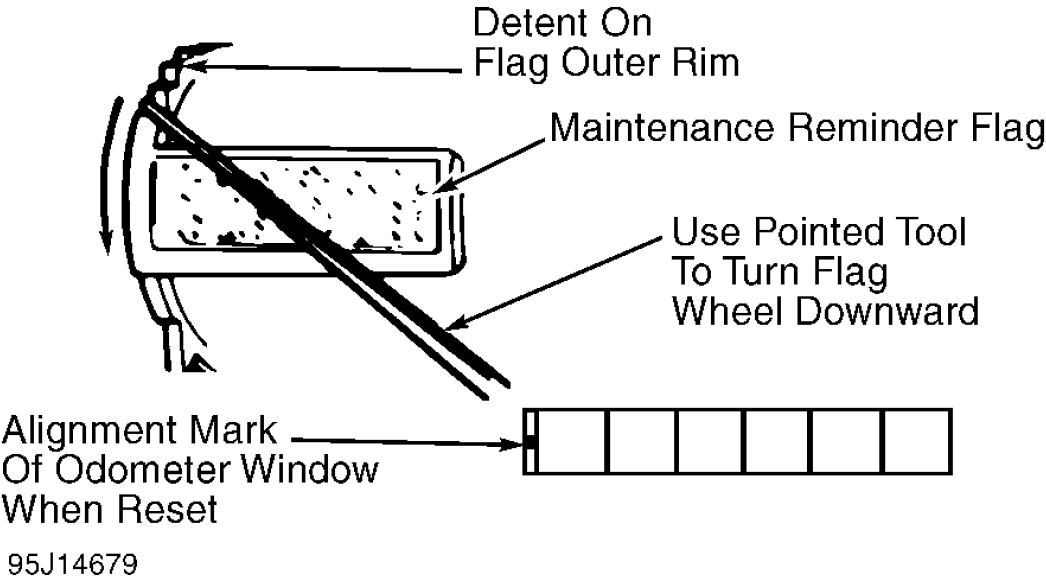

Fig. 7: Resetting Reminder Flag
- 1. Every 30,000 miles, a reminder flag appears in speedometer face, indicating service of oxygen sensor is necessary. See **Fig. 7**. Inspect and service oxygen sensor as necessary and reset flag.